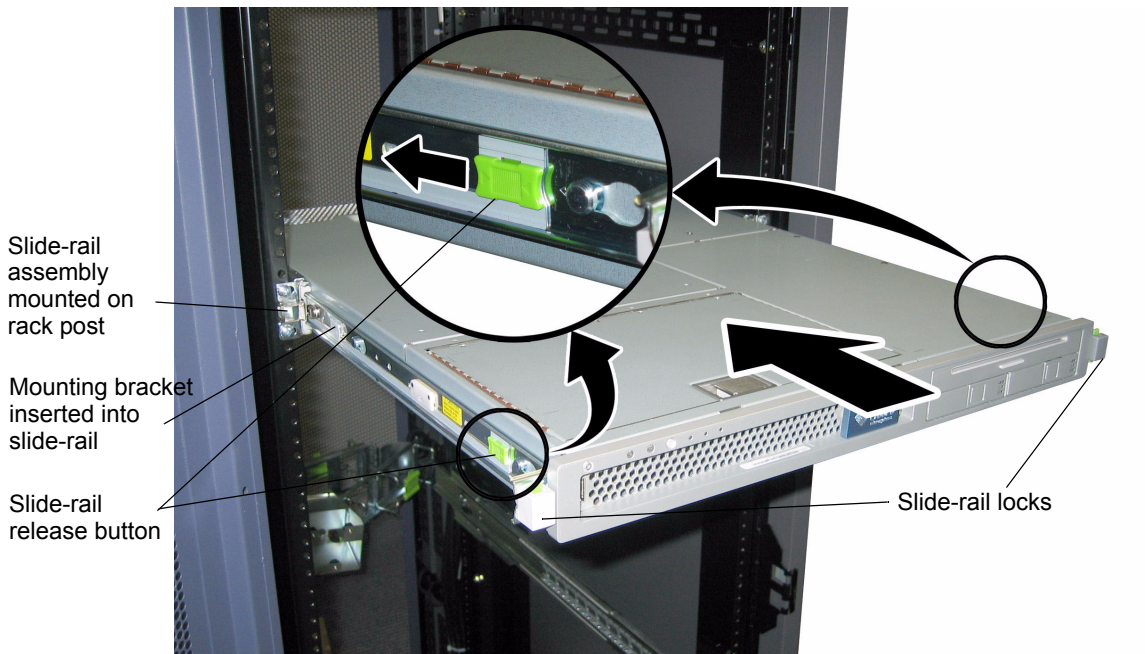

FIGURE 1-4 Inserting the Server With Mounting Brackets Into the Slide-Rails
2. Raise the server so that the rear ends of the mounting brackets are aligned with the slide-rail assemblies that are mounted in the equipment rack. See FIGURE 1-4.
4. Simultaneously pull and hold the slide rail release buttons on each mounting bracket while you push the server into the rack. See FIGURE 1-4.
- b. The second set of stops are the slide-rail release buttons, located near the front of each mounting bracket. See FIGURE 1-4. Simultaneously push or pull both of the slide-rail release buttons and push the server completely into the rack until both slide-rail locks engage.